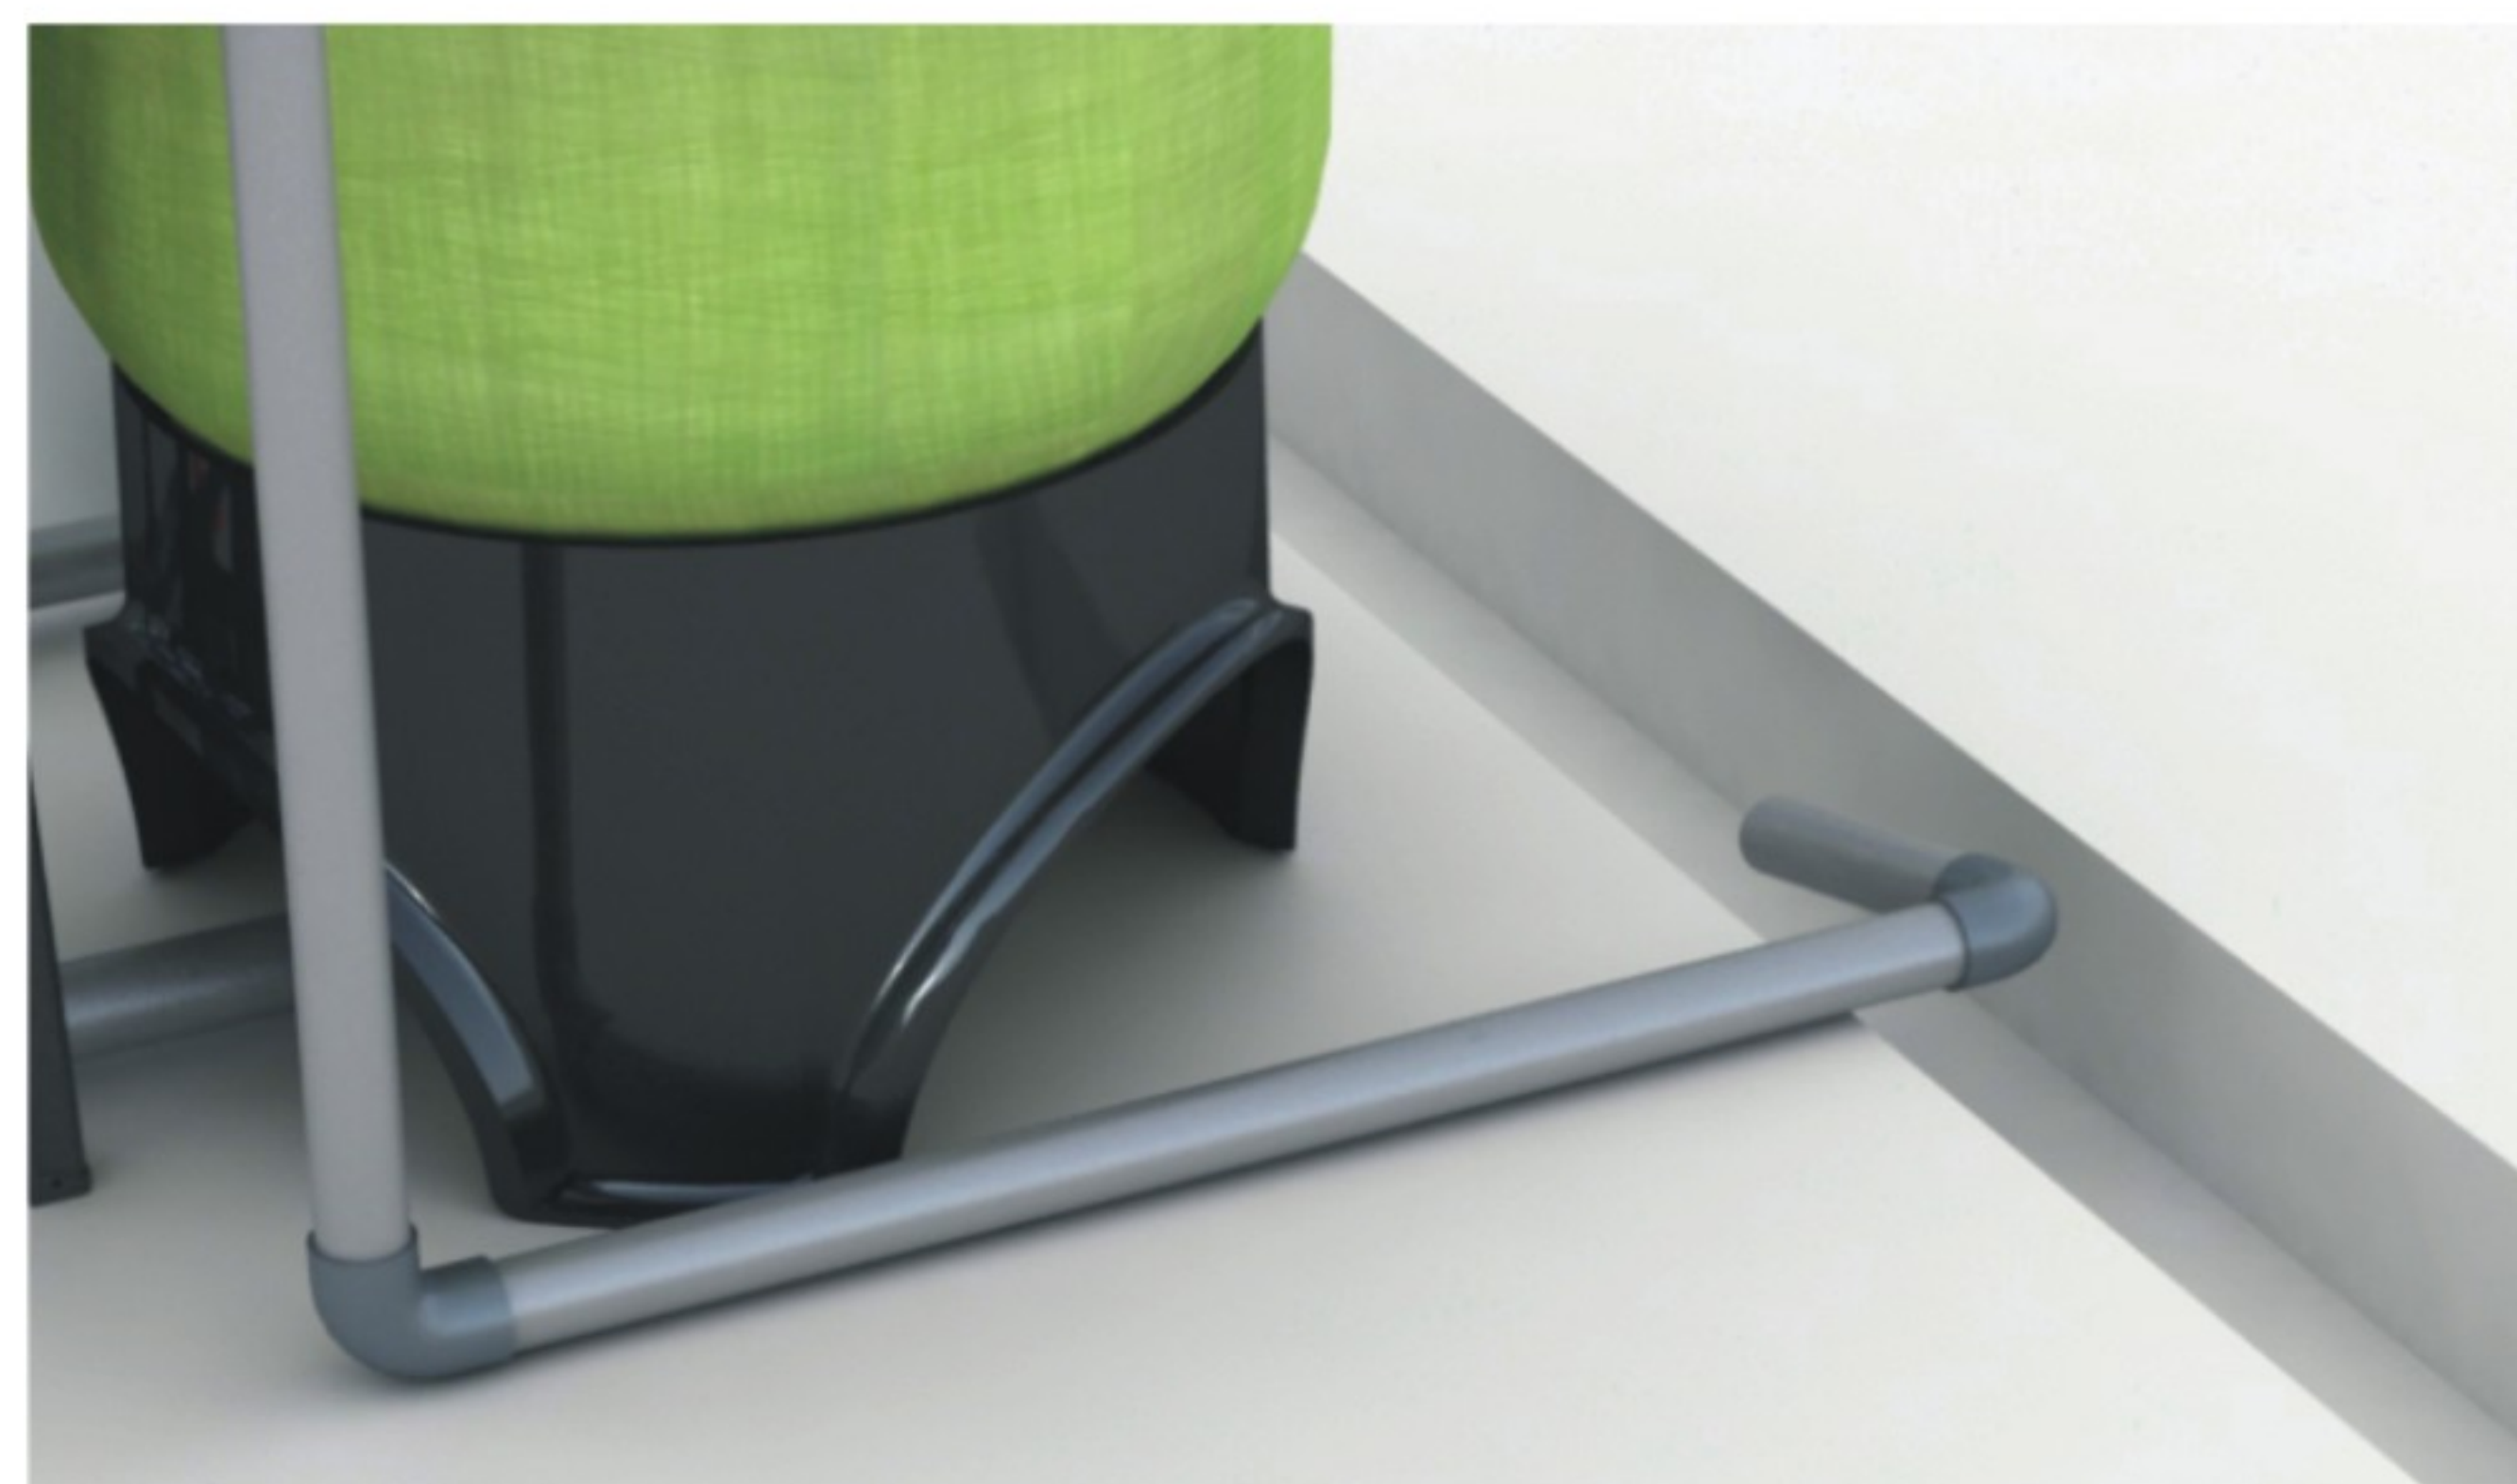

Figure 1-5
e. Glue DN80 (Outer diameter is $\phi 90$) UPVC pipeline with the drain, drain pipeline should directly to the sewer, the sewer and the drain pipeline should be installed as Figure 1-5.